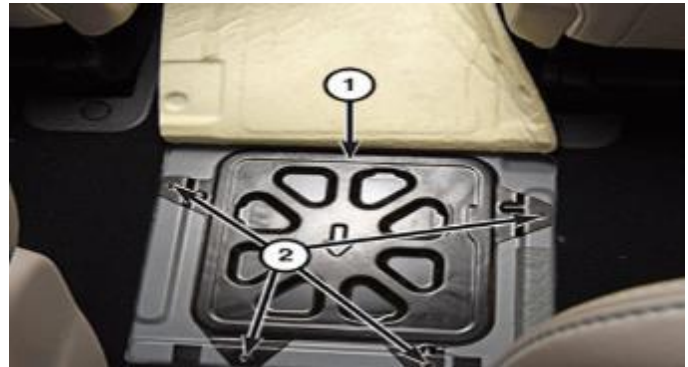

Figure 7 – MSD Access Cover
9. Remove the four screws (2) and remove the high-voltage MSD access cover (1) (Figure 7).
10. Depress the lever release latch (2) firmly. With the latch fully depressed, rotate the lever (1) upward. The lever will stop at the 45° position (Figure 7).